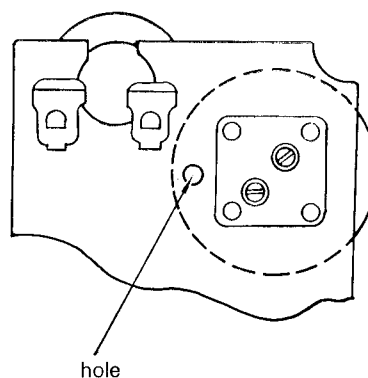

Fig. 7
3. Remove dial scale from tuning gang so that gimlet can be inserted into small hole by variable capacitor, as illustrated in fig. 7 & 8.